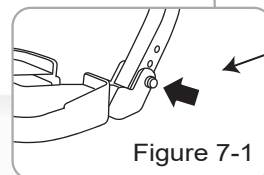

Figure 7-1
- Adjust the footrest fixation screw to required hole's position (3 heights) (Fig.7-1). Tighten the fixation screw if the footrest looses.